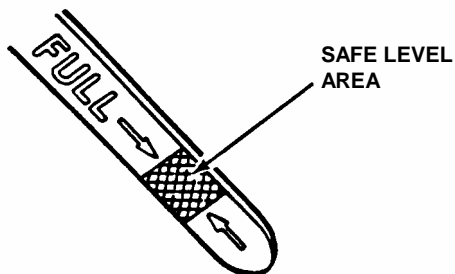

FIGURE 3.1
3.1.3. Check engine oil and add oil as needed to bring level up to the FULL mark. Refer to engine owner's manual for oil specifications. See Figure 3.1.